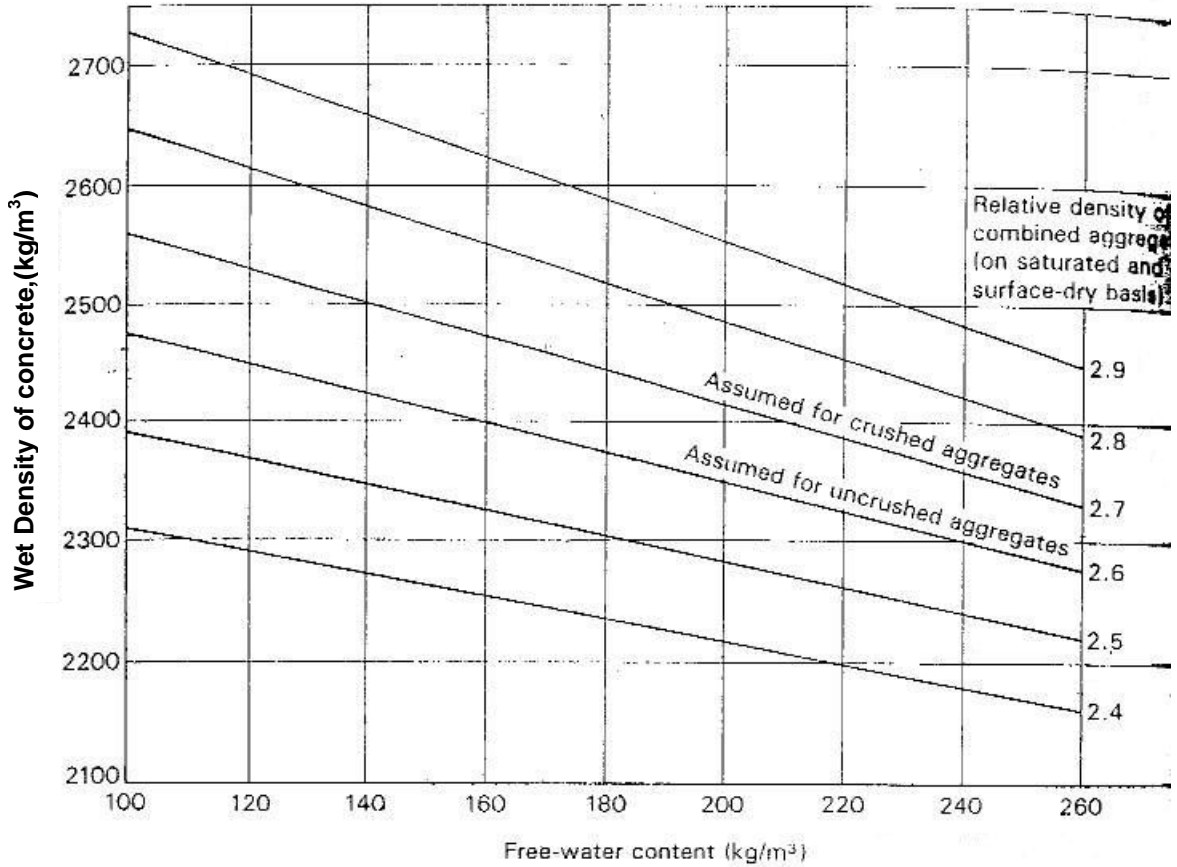

Figure 3: Estimated wet density of fully compacted concrete
Step 1. From Figure 3, estimate the density of the fully compacted concrete depending upon the free-water content and the relative density of the combined aggregate in the saturated surface-dry condition (SSD).